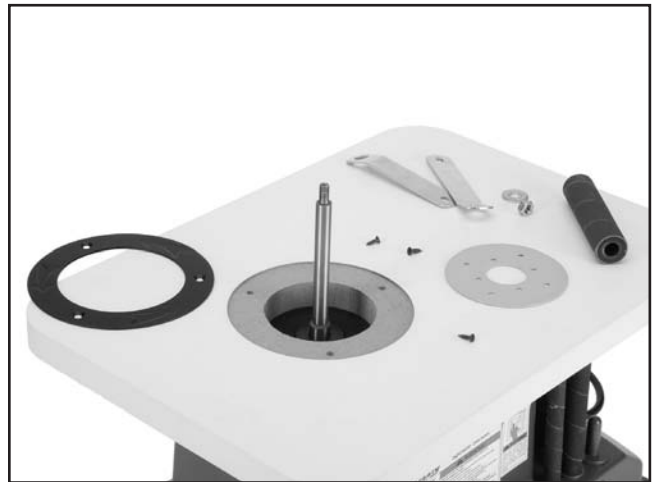

Figure 13. Rotation mark plate area.
2. Remove the three Phillips head screws and lift out the plate, as shown in **Figure 13**.